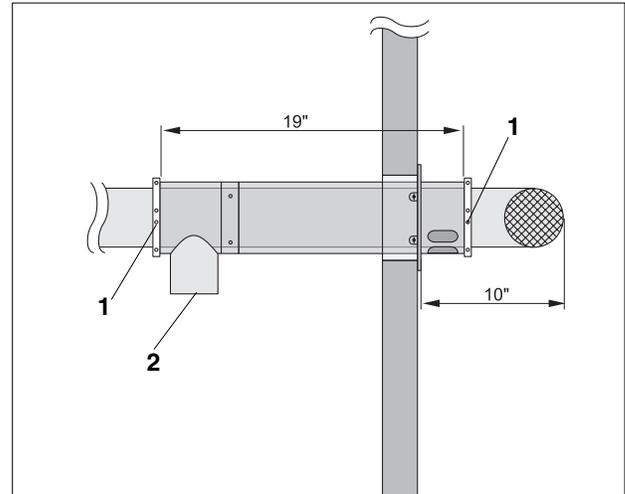
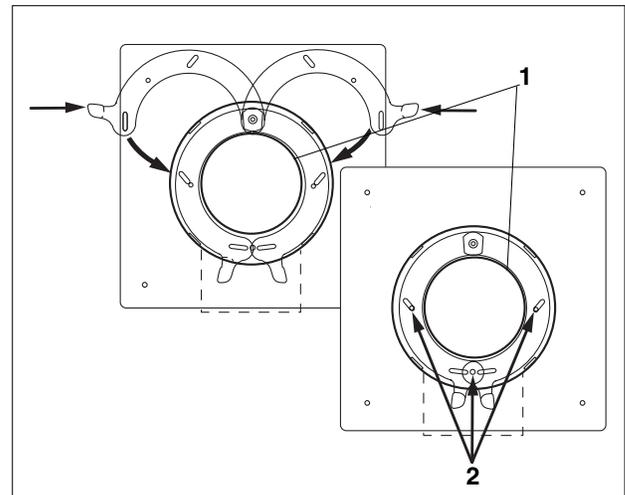

Fig. 10 Positioning of the termination tee
Fig. 11 Vent pipe locking collars
- Insert the vent pipe into the terminal body far enough so that distance between the termination tee and the wall is about 10" (Fig. 10).
- Secure both ends of the exhaust pipe through the terminal body using the furnished locking collars. (Fig. 10, **Item. 1**). Rotate collars downward and secure set screw on locking collars (Fig. 11, **Item. 2**).
- Seal the space between vent pipe and locking collars with silicone (Fig. 11, **Item. 1**).